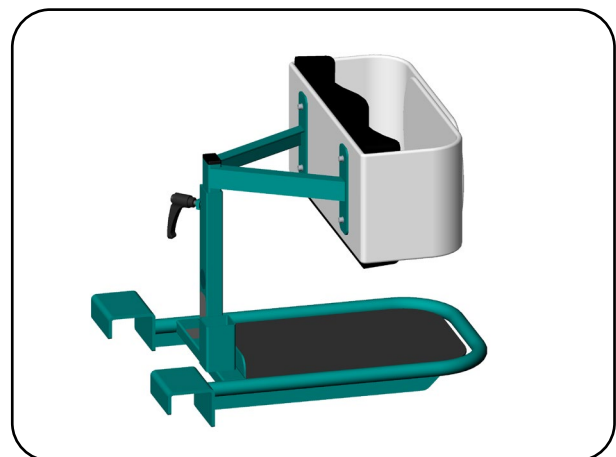

Fig. 6.4.03 – Assembled aks calf sling
3. The aks calf sling is ready for use (Fig. 6.4.03).